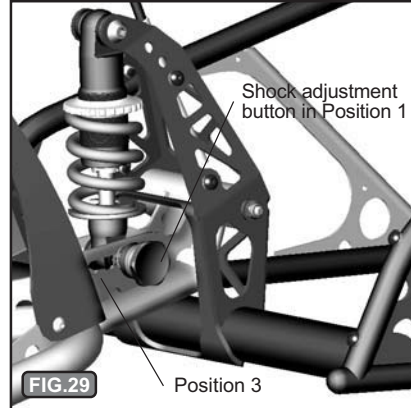

FIG.29
- B) Fully depress the shock adjustment button on the right side, Fig. 29.